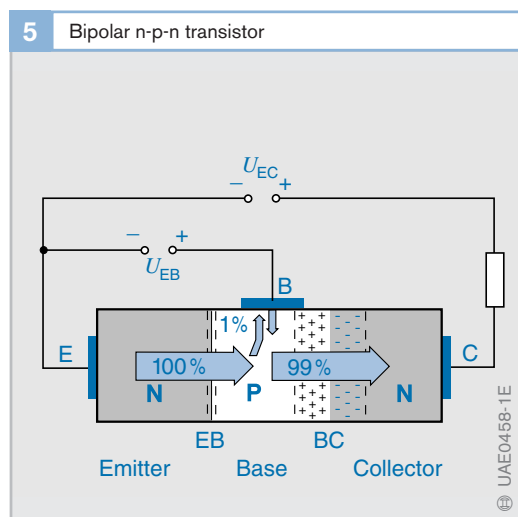

Fig. 5
The emitter-base junction (EB) is polarised for forward bias (Fig. 5 overleaf). This means that electrons migrate into the base region. The base-collector junction (BC) is polarised for reverse bias. This creates a space-charge region with a powerful electrical field.
range of the electrical field at the BC junction, they are accelerated into the collector region and travel onwards as the collector current. The concentration differential within the base thus remains and, therefore, so does the impetus for continued electron migration from the emitter to the collector (Fig. 5).